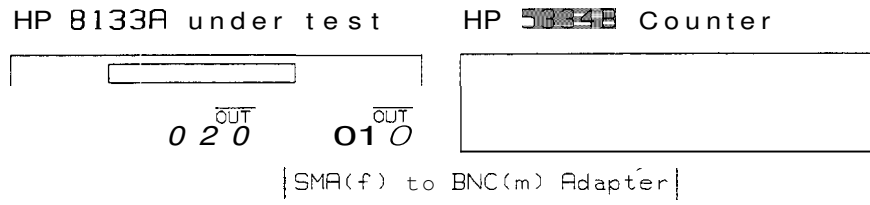

Figure 3-1. Internal Clock Low Frequency Test Set-up
1. Connect the HP 8133A Pulse Generator **TRIGGER** Output to the HP 5334B Counter Input A **as** shown in Figure 3-1